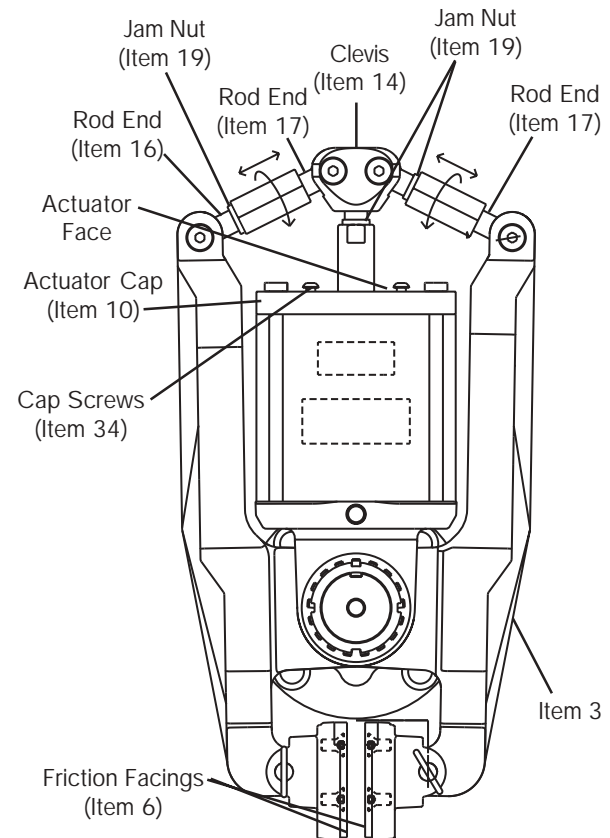

Figure 5
5. With the air pressure applied, loosen the clevis jam nut (Item 19) and rotate the clevis (Item 14) until the rear end is 100.9 mm (3.97 in) away from the face of the actuator (See Figure 5).